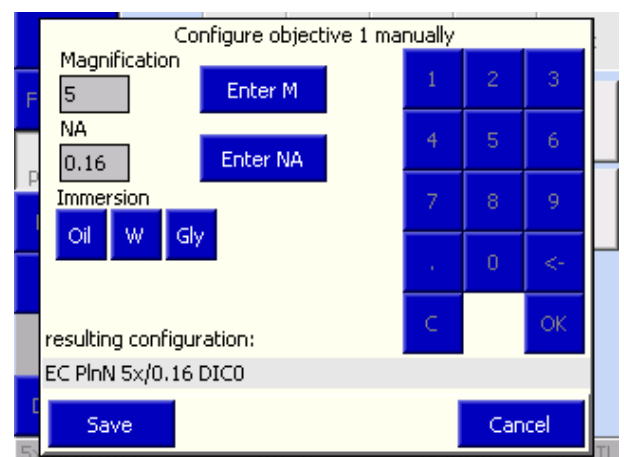

Fig. 128 Configuring objective manually
The user must manually enter magnification, numerical aperture (NA) and immersion information. (See Fig. 128)